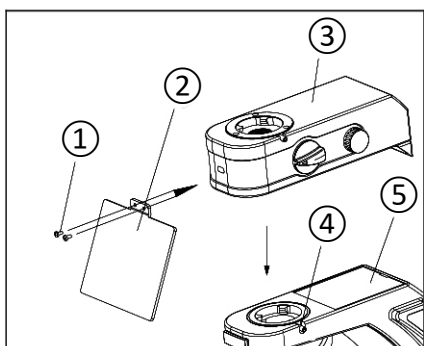

Fig. 22
Match the dovetail on the bottom of the LED fluorescence illuminator (3) to the dovetail on the arm (5), and secure it by tightening the lock screw (4). (Fig. 22)